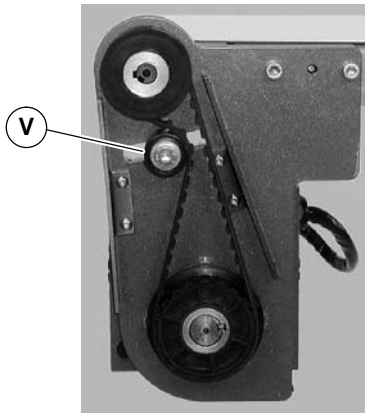

Figure 15
2. Loosen tensioner (V of Figure 15).
5. Loosen tensioner (V of Figure 15).